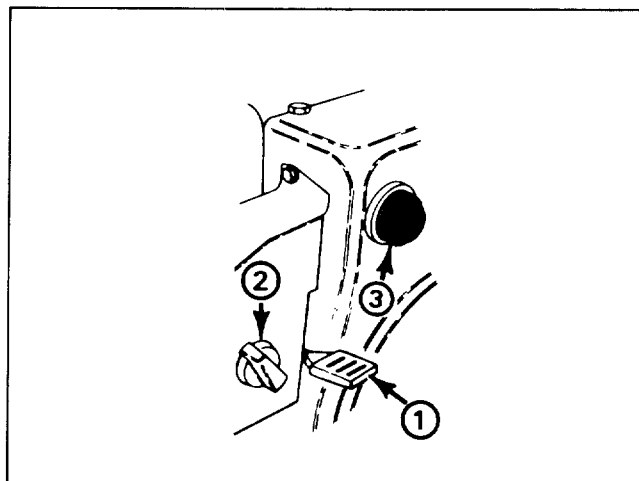

Figure 13
Throttle (Fig. 13)—Move throttle upward to increase the engine speed.
Choke (Fig. 13)—Rotate choke to ON position to start a cold engine. As engine warms up, rotate choke gradually to OFF.
Primer (Fig. 13)—Press primer to pump a small amount of gasoline into engine for improved cold weather starting.
- A. Remove (2) mounting screws securing heater box in place. Grasp choke knob (Fig. 13) and pull it off mounting pin.
4. Move choke to ON choke position (Fig. 13).
6. Cover hole in center of primer with thumb and push primer slowly three times (Fig. 13). **DO NOT PRIME IF THE ENGINE HAS BEEN RUNNING AND IS HOT.**
8. After engine starts, immediately move choke (Fig. 13) to 3/4 position. As engine warms up, move choke to 1/2 position; then to OFF position. If engine falters, return choke to 1/2 position. When engine warms sufficiently, move choke to OFF position.